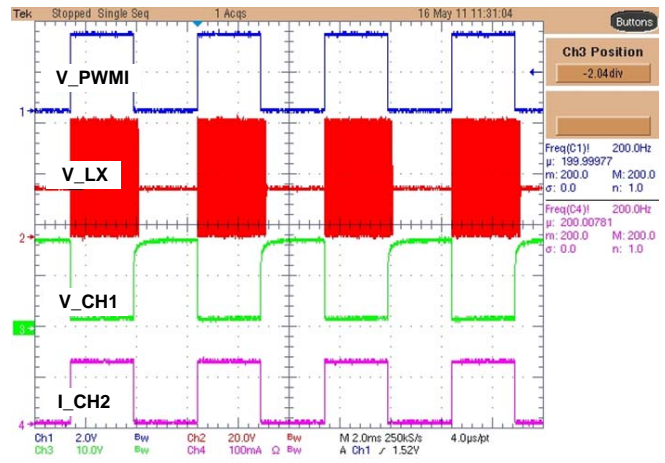

**FIGURE 4. JUMPER SETTINGS FOR INTERFACE MODE, DIMMING CURRENT AND FREQUENCY ADJUSTMENT**
2. The ISL97687IBZEV1Z evaluation board provides the adjustments of Boost switching frequency, LED dimming frequency, and LED peak with jumpers and potentiometers, as shown in Figure 4. Follow the steps for the adjustment and selection of the analog settings.